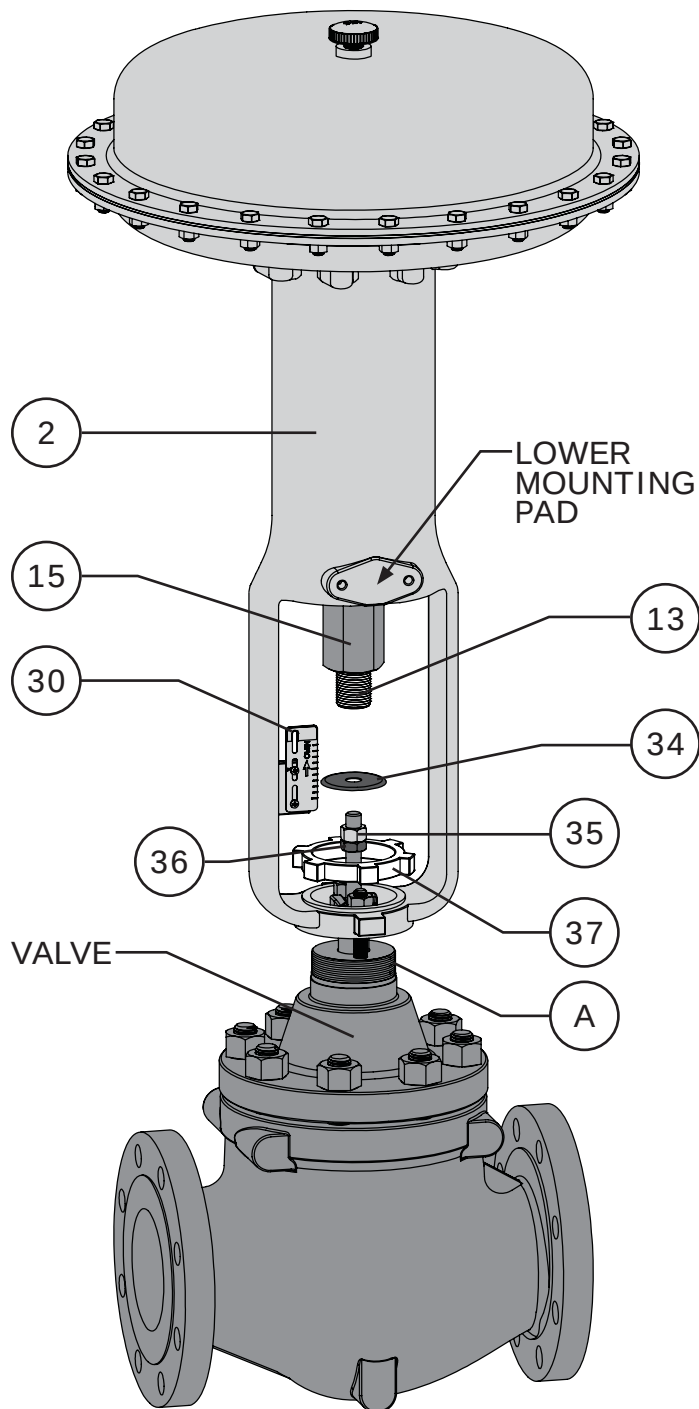
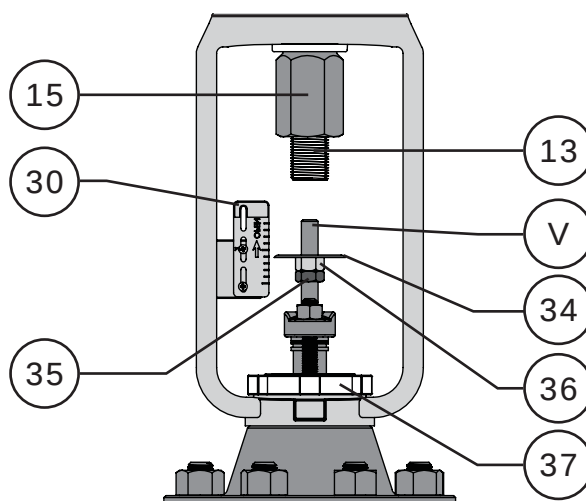

Figure 7 Actuator Mounting
Figure 8 Actuator Mounting Detail
- 2 Remove any positioners and/or instrumentation installed on the actuator. **NOTE:** Refer to Figures 32 and 33 on Page 30 for information about instrument mounting pad dimensions. Be aware that the lower mounting pad of the actuator yoke (Key 2) is the standard instrument mounting location and should be orientated to be in-line with the flow path of the valve on the side of the valve with the flow arrow (Refer to Figure 7).
- 5 Carefully lift and lower the actuator into place on the valve body as shown in Figure 7. Refer to Unpacking Valve From Shipping Container (Page 4) for information on proper lifting techniques. As the yoke passes over the valve stem, insert the yoke locknut (Key 37) and travel disc (Key 34) between the actuator stem (Key 13) and valve stem (Key V) as shown in Figure 8. The travel disc should be placed on top of the hex nut (Key 35) concave side facing towards the valve body.
- 6 Completely lower the actuator into place on the valve and orientate the actuator with the window of the yoke (Key 2) parallel with the front of the valve body so the lower mounting pad facing the front of the valve as shown in Figure 7.